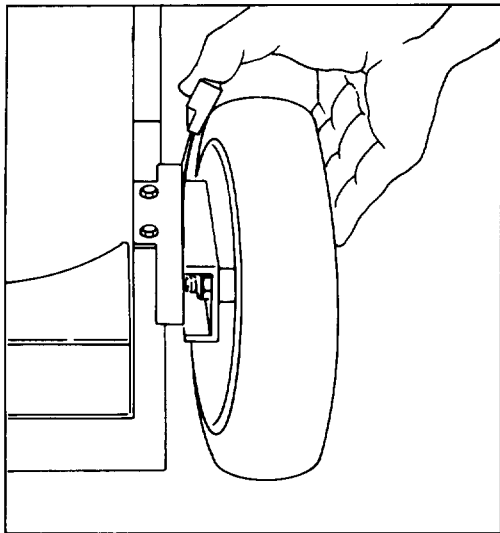

Figure 12
2. For easier adjustment, lift housing up so wheel is off ground. Do not place hands under deck to lift housing. Squeeze adjusting lever toward wheel (Fig. 12) and move it to the desired setting. Make sure pin on adjusting lever engages notch in mower housing wear plate. Adjust all wheels to the same setting.